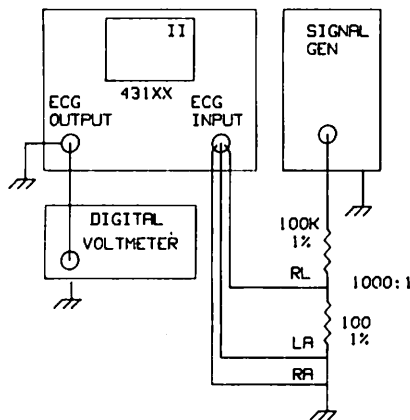

Figure 3-14. ECG Gain Adjust.
1. Connect a signal generator to the patient cable as shown in Figure 3-14.